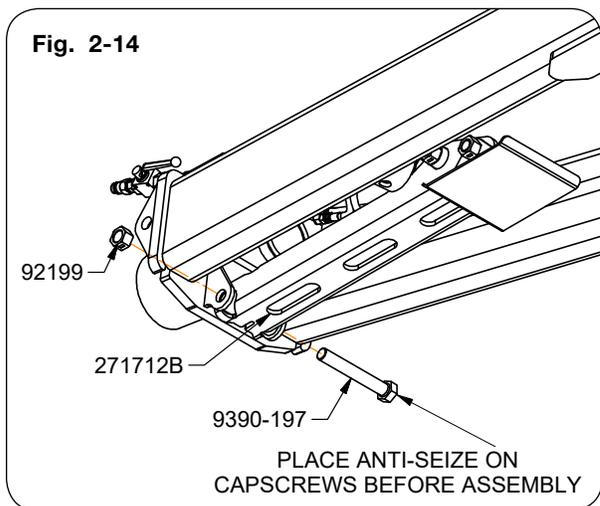

Fig. 2-14
5. Tighten 1" hardware to jack leg weldment and allow the joint to pivot. (Fig. 2-14)